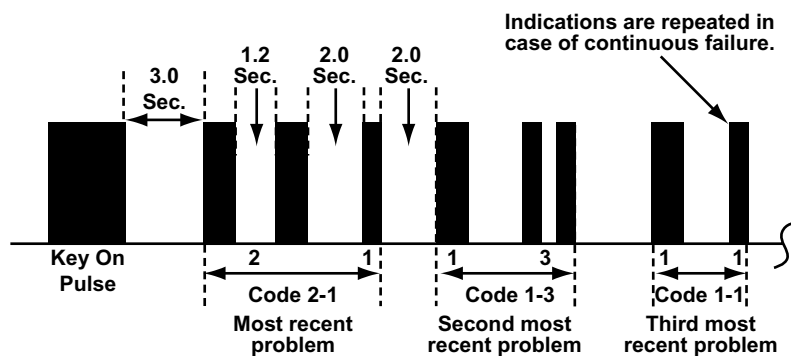
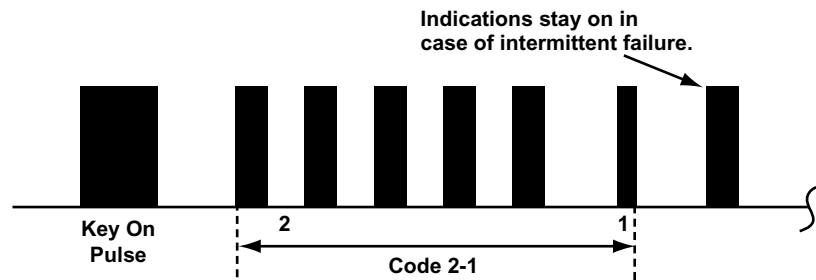
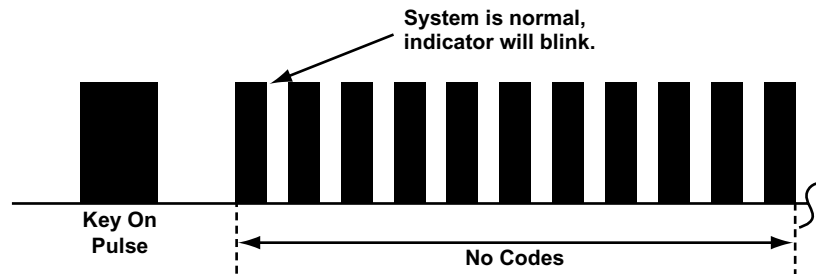

Figure 10-29 Isuzu SRS Code Type 02a: Continuous Failure, SRS indicator flashes like this
Figure 10-30 Isuzu SRS Code Type 02a: Intermittent Failure, SRS indicator flashes like this
Figure 10-31 Isuzu SRS Code Type 02a: Normal (no failure), SRS indicator flashes like this
- Type 02a, see Figure 10-29, Figure 10-30 and Figure 10-31 and Table 10-8 on page 113
- In case of continuous failure(s), the DTC(s) will be indicated repeatedly (see Figure 10-29).
- In case of intermittent failure(s), the SRS indicator light will indicate (each of) the DTC(s) one time, then it will stay on (see Figure 10-30).
- In case the system is normal (no DTC), the SRS indicator light will start to blink (see Figure 10-31).